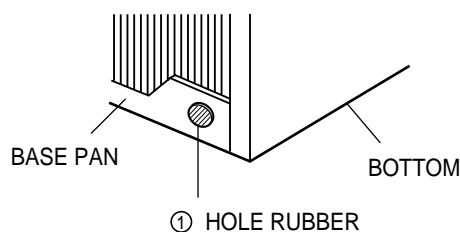

Figure 19
If the air conditioner is used in a hot and high humidity zone, exchange the ① HOLE RUBBER for the ② DRAIN PIPE.(See figure 19, figure 20.)